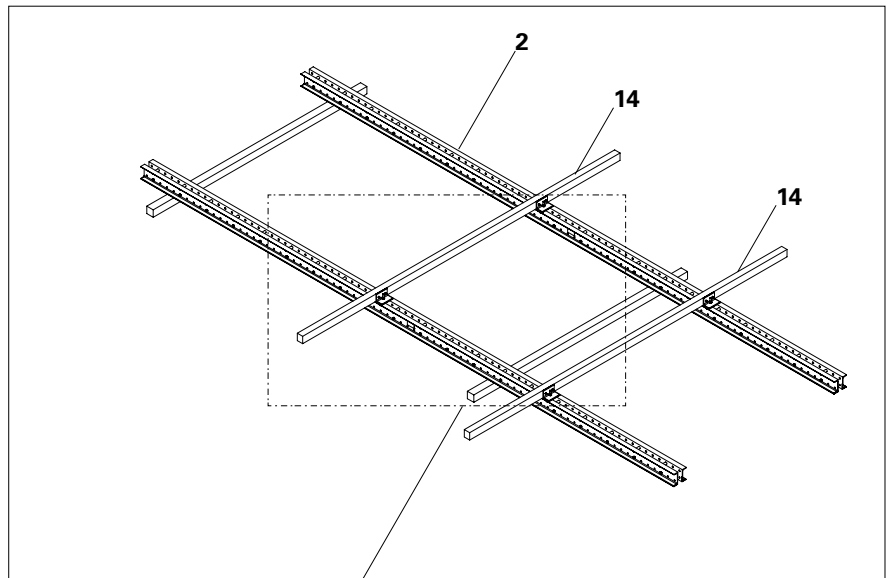

Fig. C1.06
1. Prepare two Climbing Rails (2), with Spacers  $\varnothing$  26 mm above on timbers and align them according to the planned dimensions between axes.
2. Mount several Enclosure Beams (14) with Timber Fixations (13) according to plan. See Section "C3 Assembly of the Enclosure" on page 84.
- (Fig. C1.06 + C1.06a)